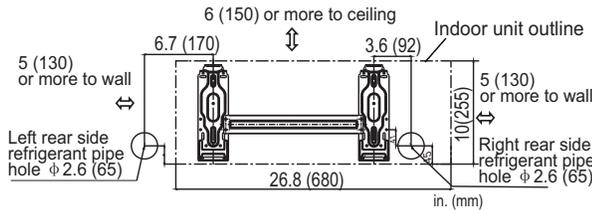

Fig. 5 – Mounting Plate– Model size 009
The mounting plate will look like one of the following (see Fig. 5 – 8) depending on model size:
1. Determine the pipe hole position using the mounting plate as a template. Drill the pipe hole diameter per values given in Fig. 5 through 8. The outside pipe hole is 1/2-in. (13 mm) min. lower than inside pipe hole, so it slants slightly downward (see Fig. 9).